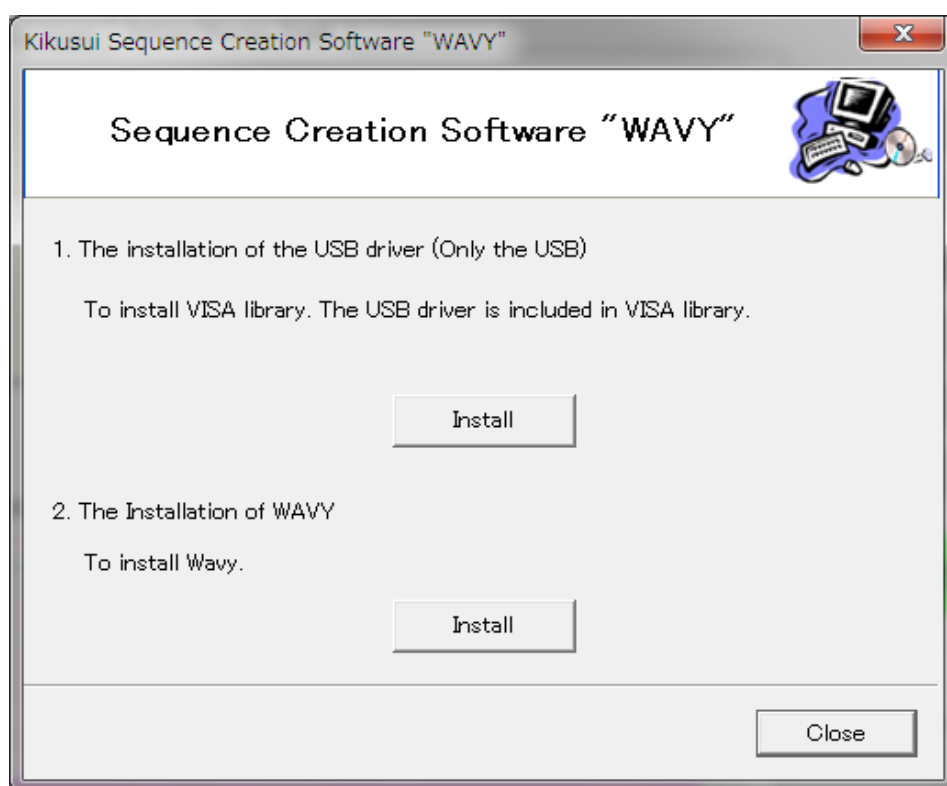

Fig. 2-1 Setup Start Screen
- (1) Insert the provided CD-ROM into the CD-ROM driver of the personal computer.
- (2) The Setup Start screen, shown in Fig 2-1, should appear automatically after a few moments. If it does not appear, run the "AutoRun.exe" file on the CD-ROM.